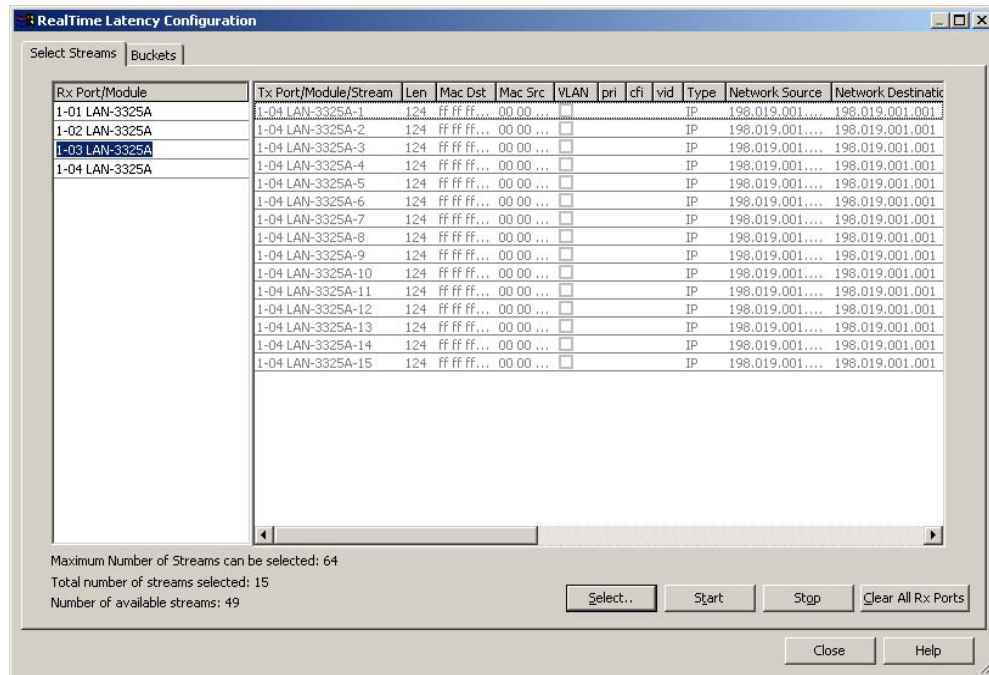

Figure 7-30. RealTime Latency Configuration Window
- 1 Select **Tests** from the main toolbar and access the **Configure** dialog box. This action displays the *RealTimeLatency Configuration* window. (See *Figure 7-30*.)